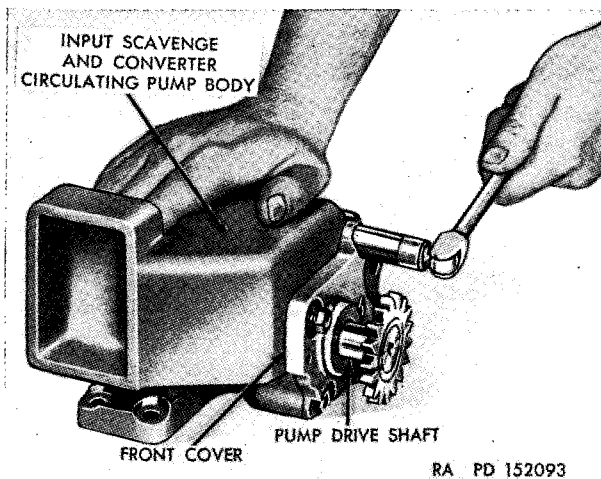
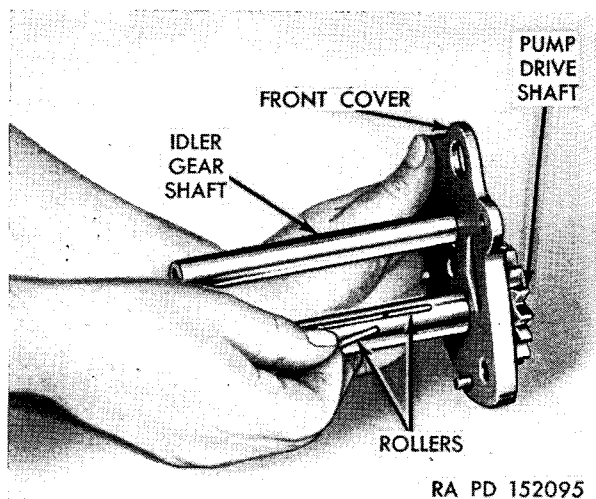
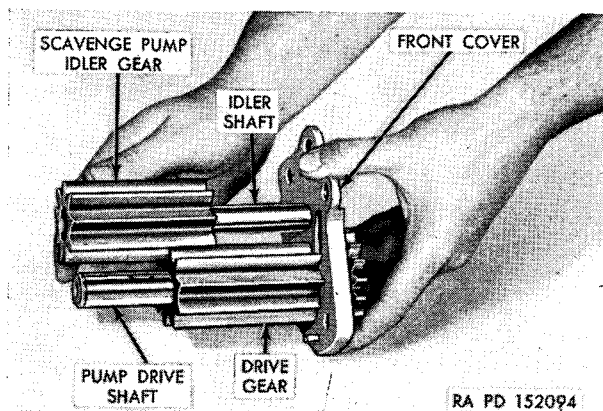
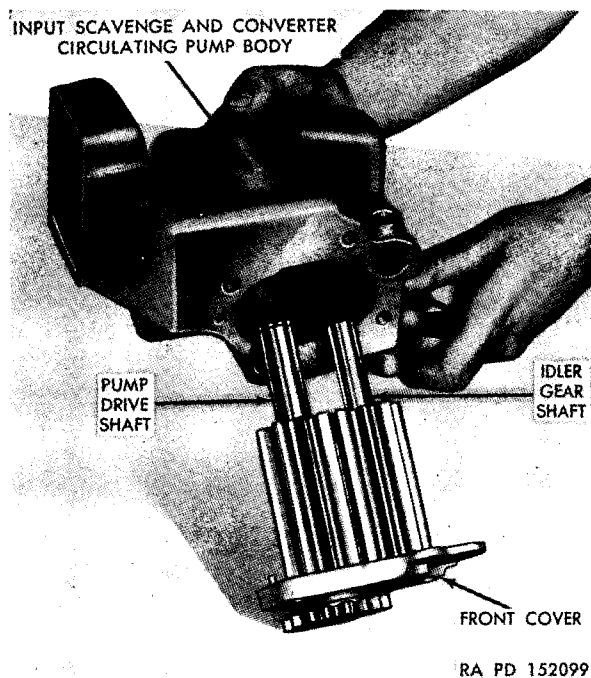

Figure 354. Removing or installing front cover bolts of input scavenge and converter circulating pump.
Figure 356. Removing or installing drive-gear-retaining rollers.
Figure 355. Removing or installing input-scavenge-pump idler gear.
Figure 360. Installing pump body on pump cover.
c. Remove the four bolts from the oil pump front cover (fig. 354). Loosen the front cover by tapping lightly on the idler-gear shaft. Remove the cover, the drive shaft, the scavenge-pump drive gear, the idler gear, and the idler shaft as an assembly. Remove the idler gear from the idler shaft (fig. 355).
d. Pull the scavenge-pump-internal drive gear off the drive shaft and remove the two gear-retaining rollers from the groove on the drive shaft (fig. 356).
two rollers in the long slot on the pump drive shaft (fig. 356). Install the input scavenge-pump gears on the shafts (figs. 355). Install the pump body on the front cover (fig. 360). Install four $\frac{5}{16}$ -inch bolts in the cover and torque 17 to 20 pound-feet (fig. 354).